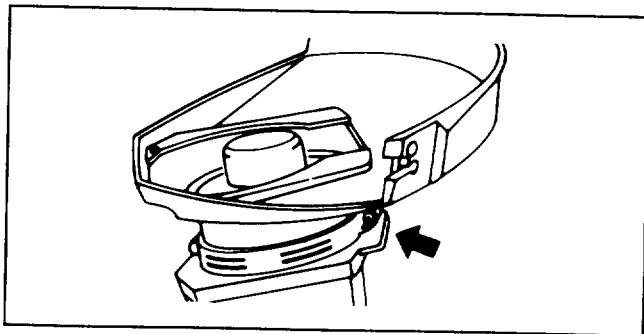

Figure 5
1. Place grass shield over trimmer head assembly (Fig. 5).